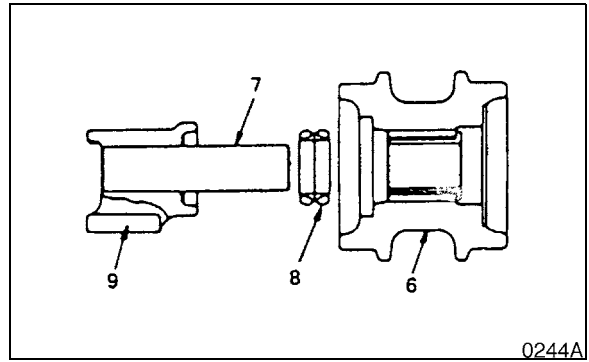

Figure 42
4. Separate the group seal (8, Figure 42) from the roller and bracket (9).